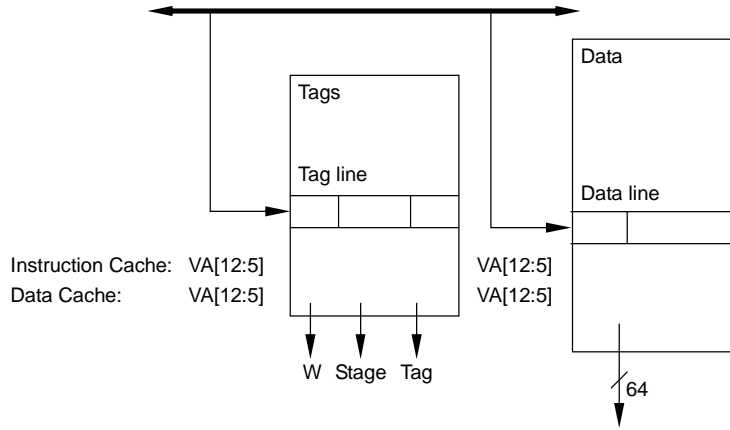

Figure 5.4.1 Primary Cache Data and Tag Organization
Figure 5.4.1 shows the virtual address (VA) index to the primary cache. Instruction cache size is 32 KB and Data cache size is 32 KB. The virtual address bits be used to index into the primary cache decided by the cache size.